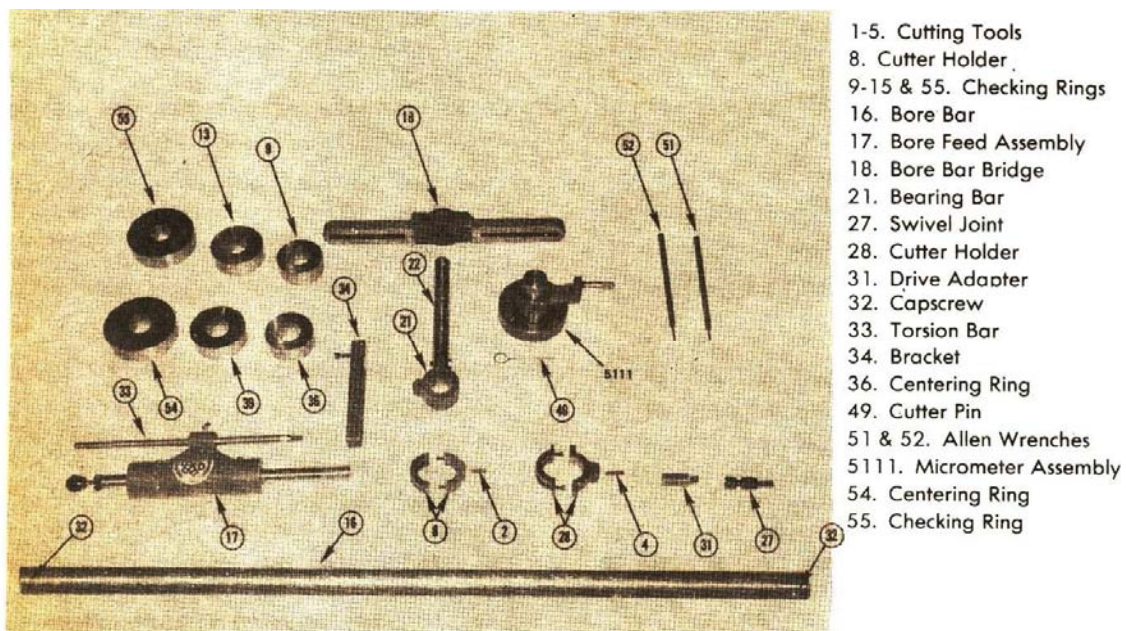

Fig. 1-44. Exploded view of the ST-1177 Boring Tool
- Oil the centering ring bores and boring bar (ST – 1177 – 16 Fig. 1-44) through the centering rings rotating the bar slowly. The boring bar should spin free. Slide the boring bar out one end until the checking ring (ST-1177 -55) can be installed in the bar. Oil the outside diameter of the checking ring.